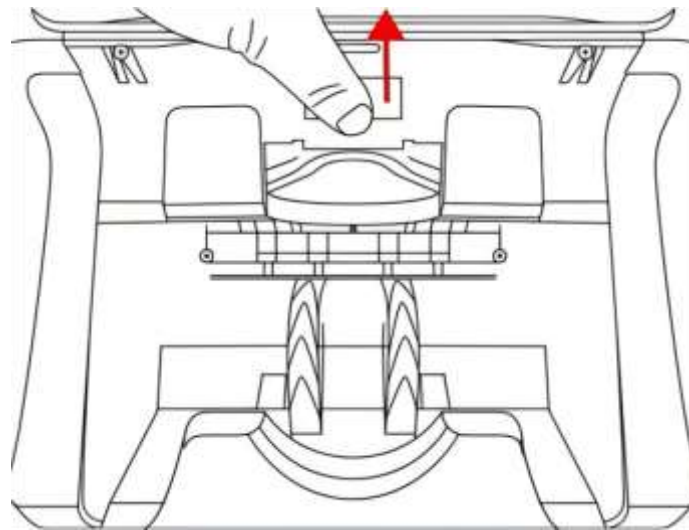

Figure 133
1) In the direction of the arrow in Figure 133, press up to open the upper and lower passage boards.